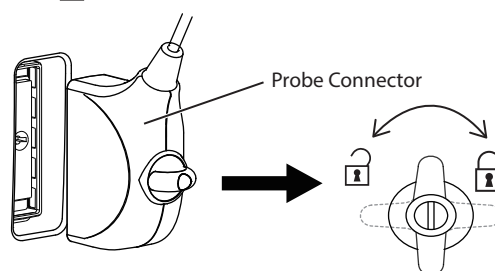

Figure 3-8 Connecting the Probe
1. As shown in Figure 3-8, keep the probe cable upward and rotate the locking lever on the probe connector anticlockwise to the  position to unlock the probe connector.